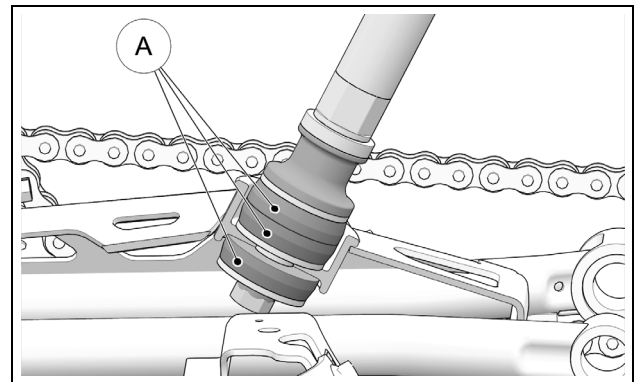

Figure 31
Inspect the Rubber Dampers (A) mounted on strut rod. Replace them if they show cracks or are excessively worn or deformed. Figure 31.